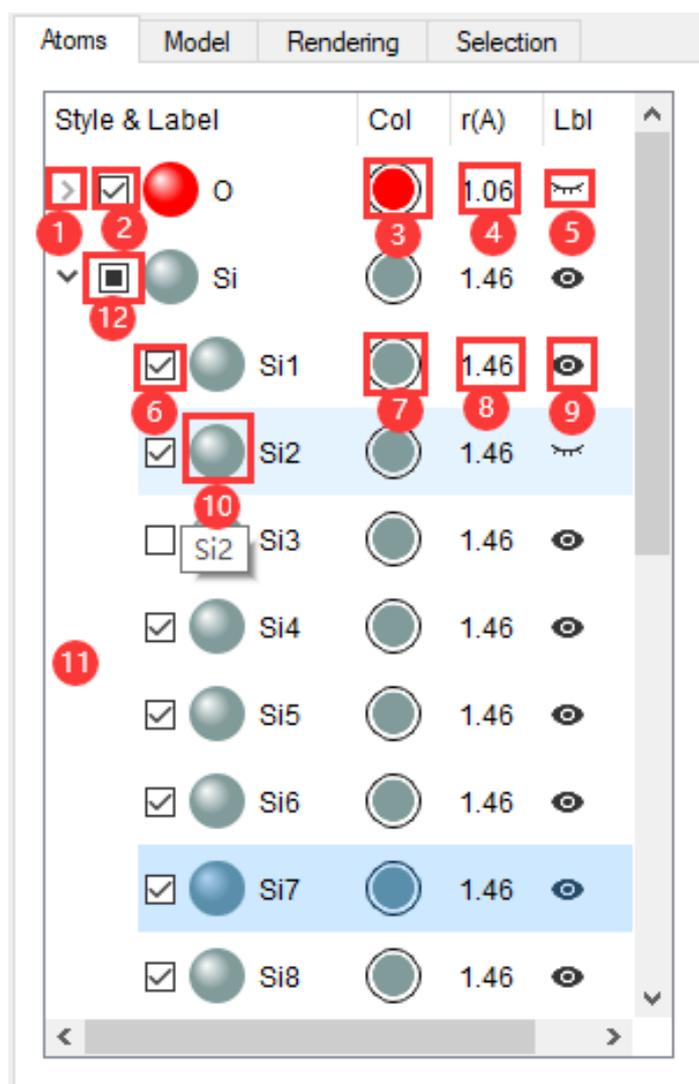
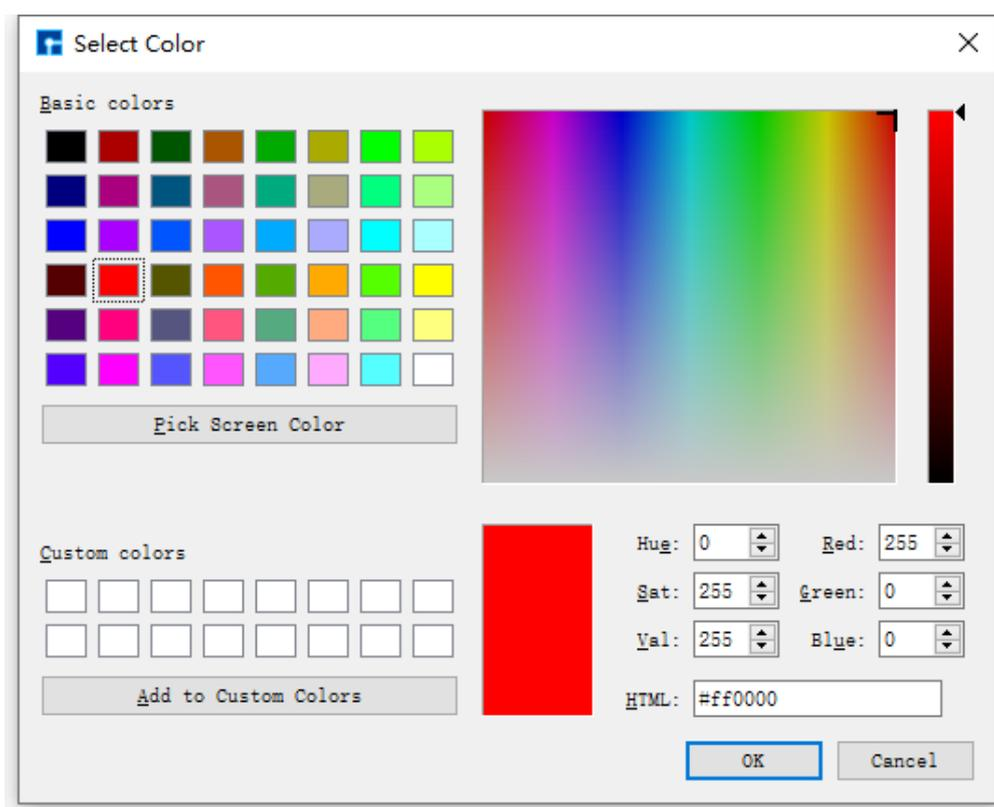
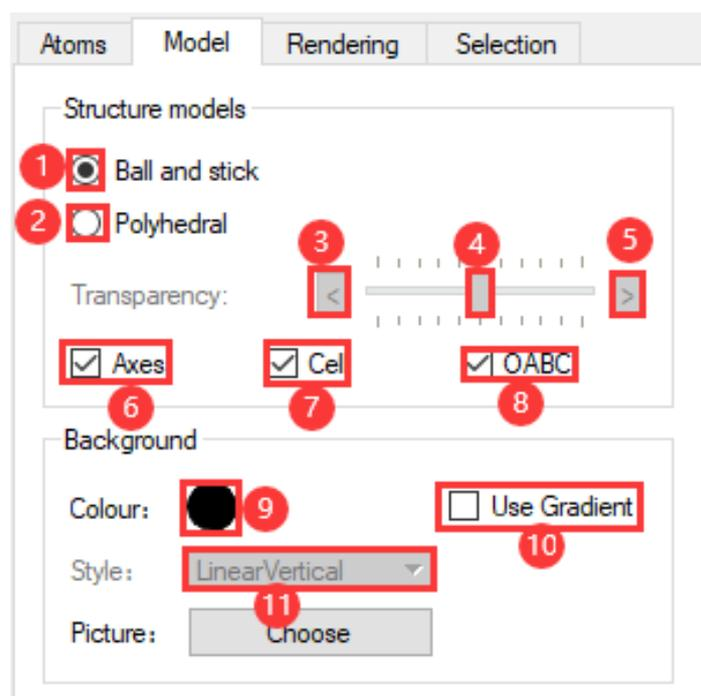

fig. 6.11: Atoms Area in the Structure Refinement Module Parameter Adjustment Region
fig. 6.12: Select Color Interface
fig. 6.13: Structure Refinement Module Parameter Adjustment Area - Model Area
The Atoms area in the parameter adjustment region of the Structure Refinement Module (SRM), as shown in fig. 6.11, provides the following functionality:
The following describes the functions of each labeled item in the Atoms area of the Structure Refinement Module (SRM) parameter adjustment region, as shown in fig. 6.11:
- – Label ① in fig. 6.11: Collapse atoms in the structure by element type or expand them by label.
- – Number ② in fig. 6.11: Show or hide all atoms of the same element in the structure in the SRM structure display area;
- - Number ③ in fig. 6.11: Modify the color of the same element in the structure;
- * Click ③ in fig. 6.11 → The Select Color interface pops up as shown in fig. 6.12
- - Label ④ in fig. 6.11: Modify the radius of the same element in the structure;
- * Double-click label ④ in fig. 6.11 → modify the radius value to change the radius of the \circ element (i.e., the radius of all \circ atoms).
- – Item ⑤ in fig. 6.11: Shows or hides the labels of all atoms of the same element in the SRM structure display area;
- – Item ⑥ in fig. 6.11: Shows or hides a specific atom in the SRM structure display area;
- – No. ⑦ in fig. 6.11: Modify the color of an atom in the structure;
- * Click label ⑦ in fig. 6.11 → The Select Color interface, as shown in fig. 6.12, will pop up → Select a color or enter RGB values → Click the *OK* button to modify the color of the S_{i1} atom.
- – Label ⑧ in fig. 6.11: Modify the radius of an atom in the structure;
- * Double-click label ⑧ in fig. 6.11 → modify the radius value to change the radius of the S_{i1} atom.
- – Number ⑨ in fig. 6.11: Show or hide the label of a specific atom in the SRM structure display area;
- – fig. 6.11, label ⑩: Hovering the mouse over this location will display the atom label;
- * If the atom label is too long to be fully displayed, place the mouse cursor over it to show the complete label. For example, placing the cursor over label ⑩ in fig. 6.11 will display the complete label S_{i2} .
- – Number 7 in fig. 6.11: This can be any location in the Atoms area. You can modify the color or radius of all elements in the structure by right-clicking.
The Model area in the parameter adjustment region of the Structure Refinement Module (SRM), as shown in fig. 6.13, provides the following functionalities:
The following describes the functions of each labeled item in the Model area of the Structure Refinement Module (SRM) parameter adjustment region, as shown in fig. 6.13:
- – In fig. 6.13, label ①: Clicking ① selects the ball-and-stick model for displaying the atomic structure;
- – In fig. 6.13, label ②: Clicking ② selects the polyhedral model for displaying the atomic structure;
- – In fig. 6.13, label ③: In polyhedral mode, clicking area ③ increases the transparency of the polyhedra, making them increasingly transparent;
- – In fig. 6.13, label ④: In polyhedral mode, dragging label ④ adjusts the transparency of the atomic structure polyhedra;
- * Left-click and drag the button in area ④ to the left to increase the polyhedron's transparency, making it more transparent.
- * Click and hold the button in area ④ with the left mouse button and drag to the right to decrease the polyhedron's transparency, making it increasingly opaque.
- – In fig. 6.13, clicking area ⑤ in polyhedron mode reduces the polyhedron's transparency, making it increasingly opaque;
Items ③, ④, and ⑤ in fig. 6.13 (i.e., polyhedron transparency adjustment) are only active when item ② (Polyhedral) is selected, meaning the atomic structure display mode is set to polyhedral. Otherwise, they are grayed out and unavailable. Only one of the ball-and-stick and polyhedral modes can be selected at a time.
- – Number ⑥ in fig. 6.13: Shows or hides coordinate axes in the SRM structure display area;
- – Item ⑦ in fig. 6.13: When the structure is a crystal or device, show or hide its cell in the SRM structure display area;